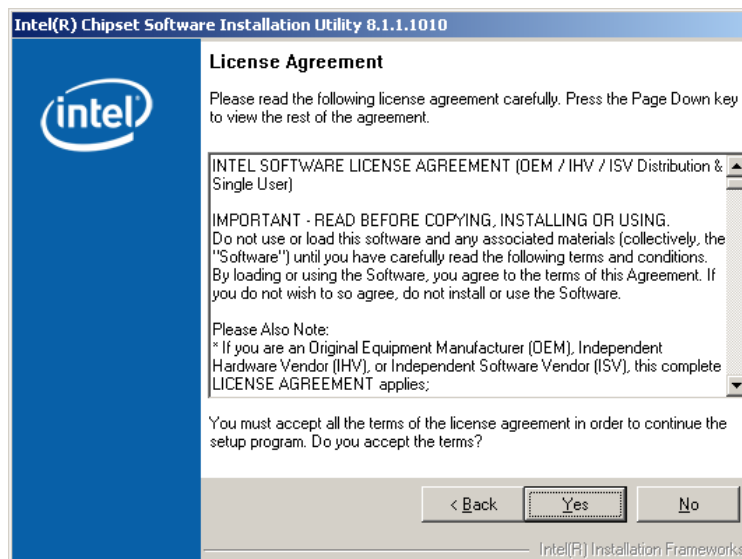

Figure 7-6: Chipset Driver Installation License Agreement
Step 13: The license agreement in **Figure 7-6** appears.